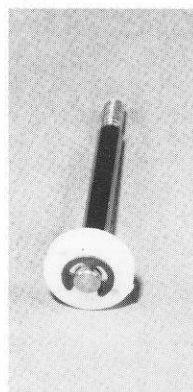

Fig. 109
□ **Fig. 109** Install the four shock pistons onto the #6459 rear shock shafts and #6460 front shock shafts. Secure each piston to the shaft with a #6299 1/8" E-clip. Fig. 109 shows one of your shock shafts with piston installed. **Racers Tip:** It does not matter which way you install the pistons, but we recommend having the molded number up so that it will be easier to remember what piston you are using when you service your shocks.